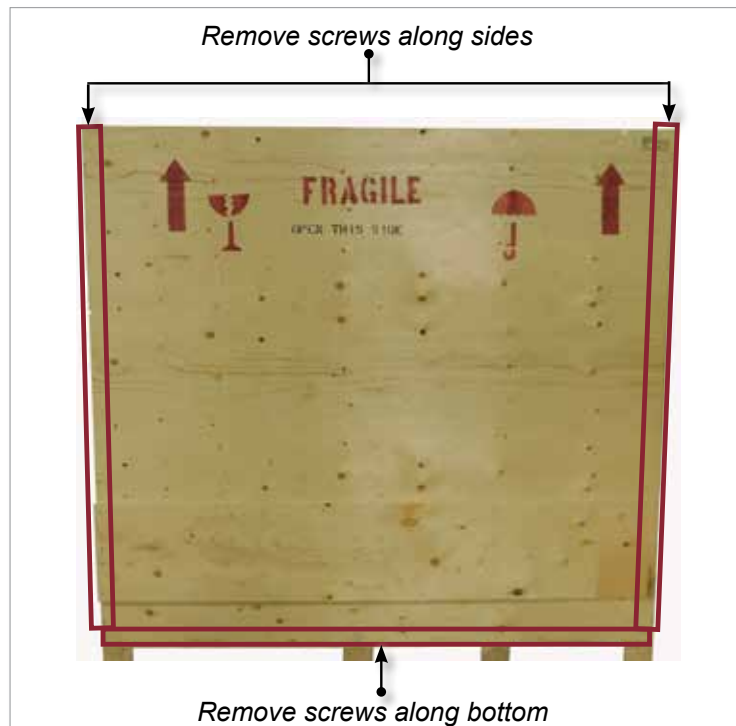

Figure 3-8 Remove screws from side and bottom
- From the side of the crate marked with “FRAGILE OPEN THIS SIDE”, remove the screws down the sides and at the bottom of the crate. See Figure 3-8.